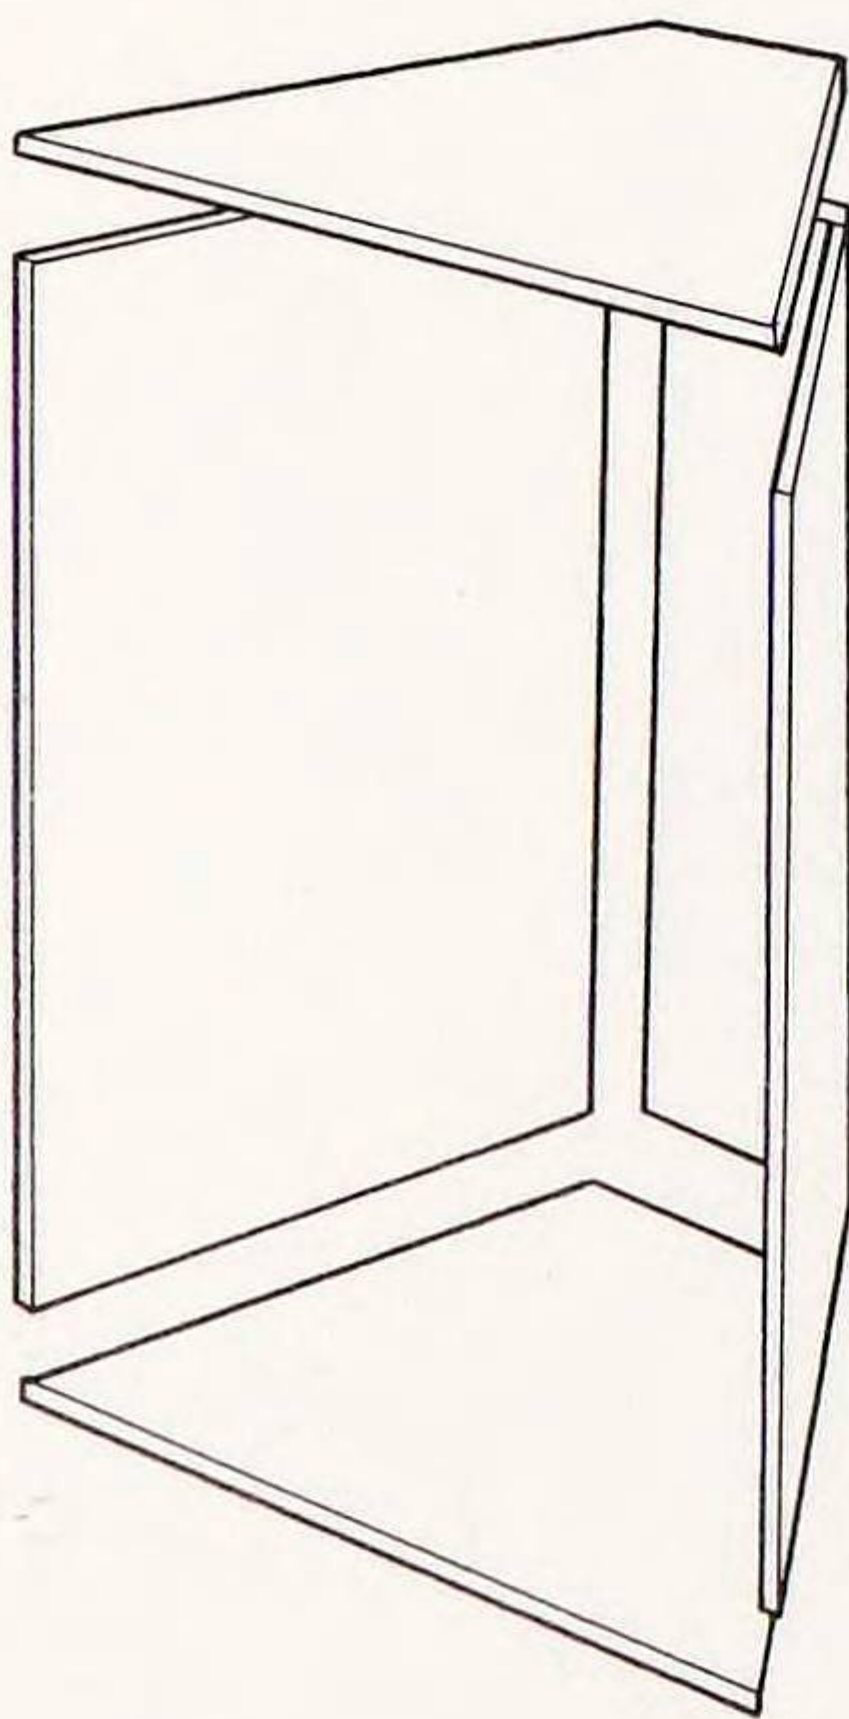

Fig. 1 The main components for the cabinet
1. The cabinet is made from manufactured board, using two sides, a top, a bottom and a back surface (Fig. 1). First of all, mark out and cut these components to size.